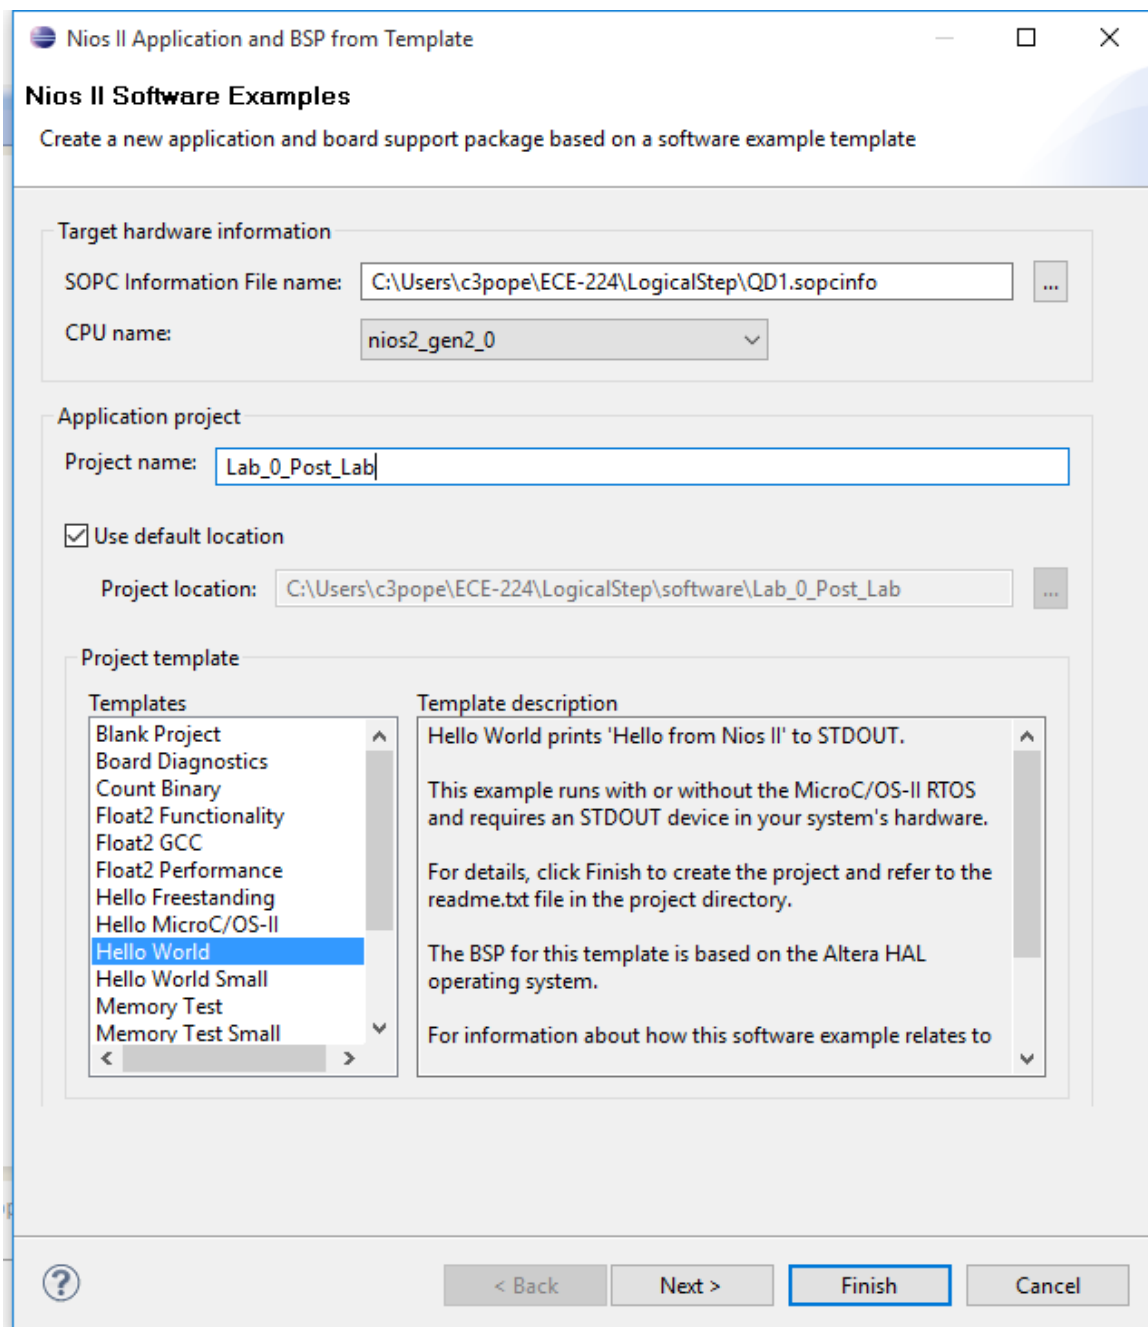

Figure 37: Configuring a New Application from a Template for Lab_0_Post_Lab
5. Select the Hello World project from the Templates list as shown in Figure 37.